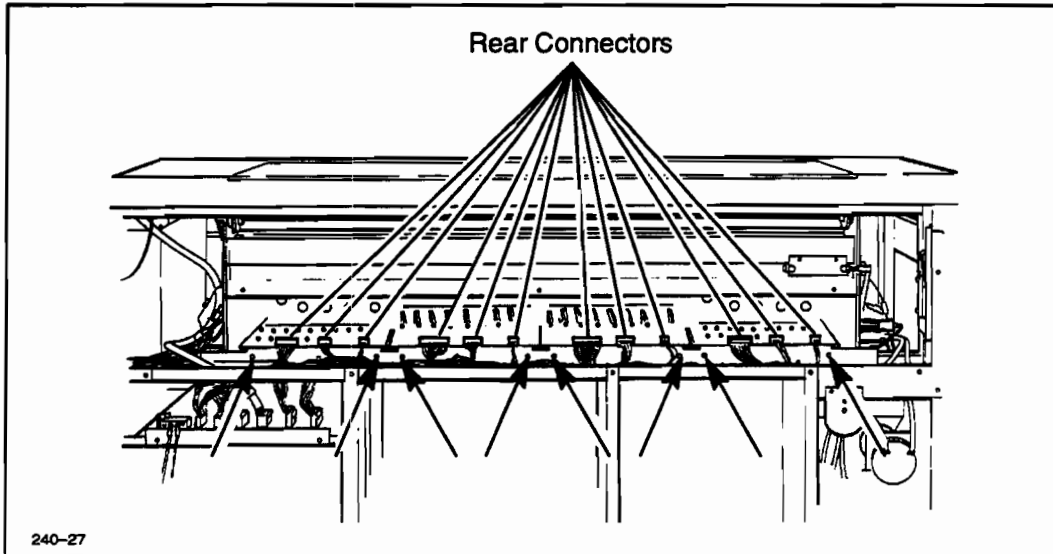

Figure 6-36. PED and CED PCA Rear Connectors
8. Reach through the rear PCA shield opening and disconnect PDCN1, PDCN2, and PDCN3 of the selected PCA. See Figure 6-36.
9. Using a #2 Phillips screwdriver, remove the two PCA mounting screws. See Figure 6-36.